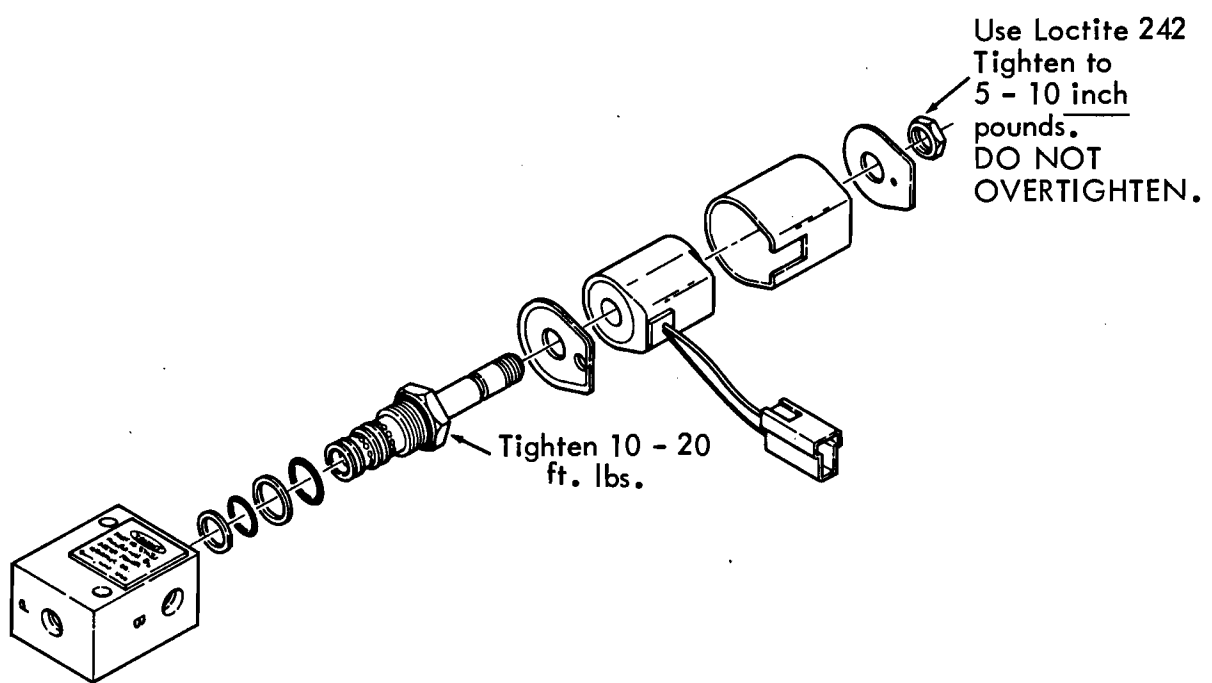
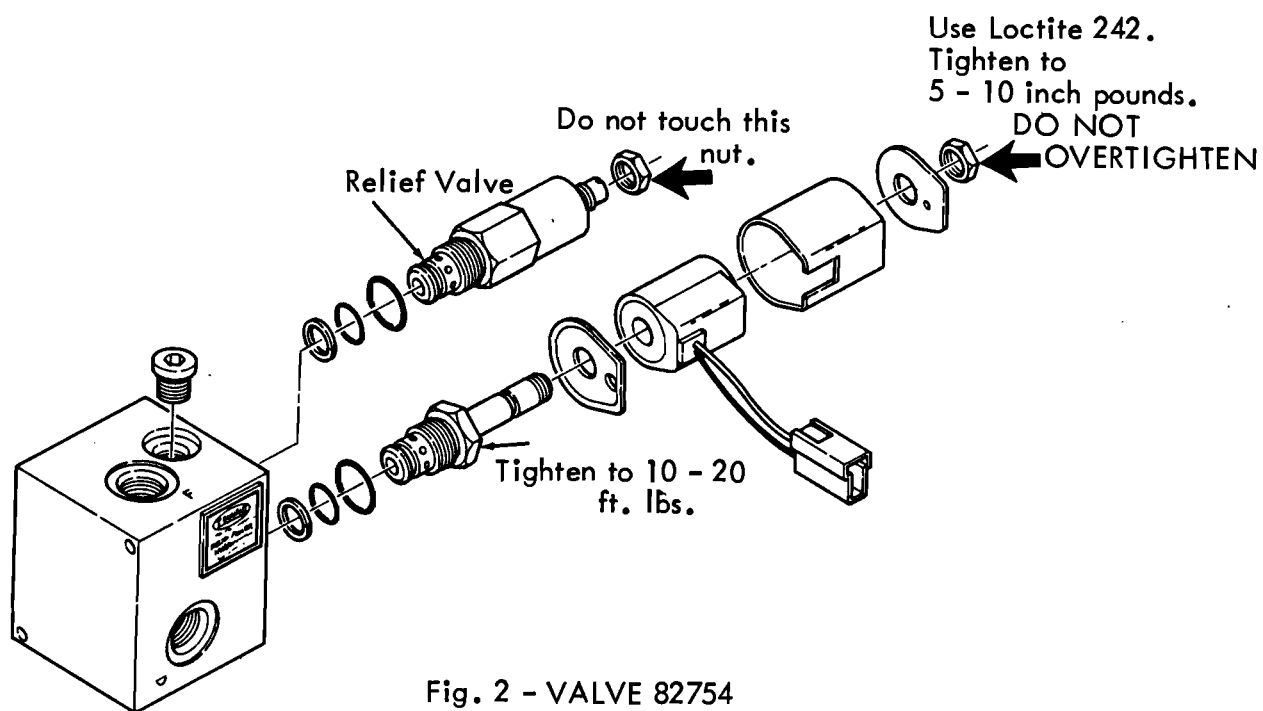

Fig. 1 - VALVES 64819-1 & 57031
Fig. 2 - VALVE 82754
5. Release valve cartridge from its housing by first removing the top nut and coil, then unscrewing the cartridge. (See Fig. 1 for the 527 and 527 II; Fig. 2 for the 255, 275, and 275SE.